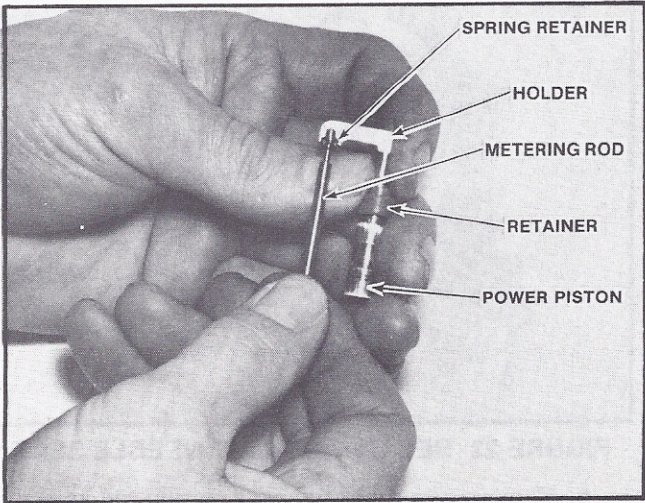

FIGURE 24 REMOVING METERING ROD FROM PISTON HOLDER
7. Remove the power piston spring from the piston bore. If necessary, metering rod may be removed from power piston hanger by compressing spring on top of metering rod and aligning groove on rod with slot in holder (Figure 24). Use extreme care in handling the metering rod to prevent damage to metering rod tip.